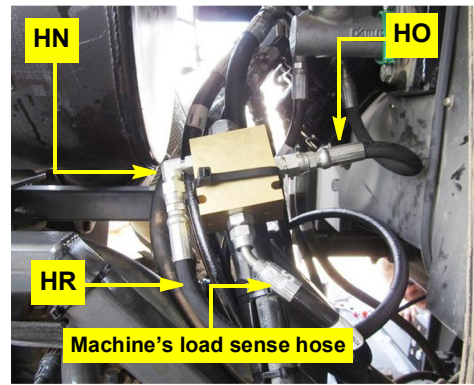

Figure 6b: Load sense hose connected at load sense valve
- b. Connect load sense hose **HR** to adapter **HN** in the load sense valve (Figure 6b).
- c. Secure the load sense valve with a tie-strap **HS** (Figure 6b).